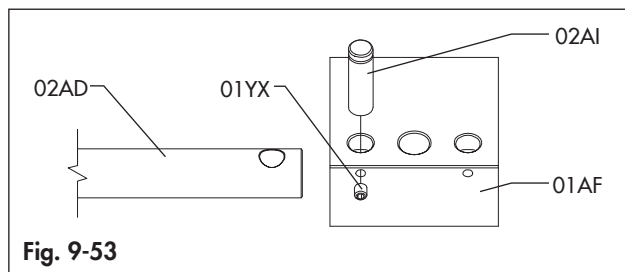
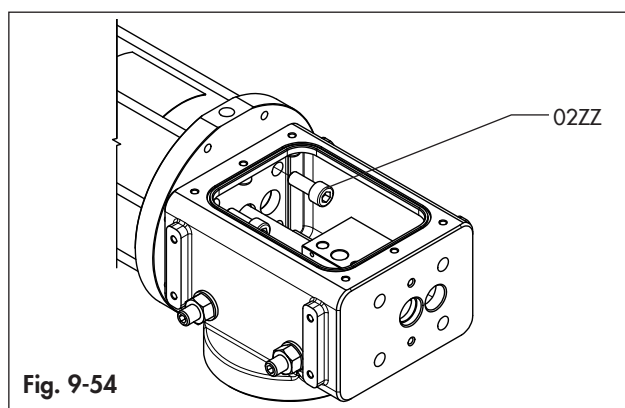

Fig. 9-53
Fig. 9-54
- Insert the shaft (02AD) into the Central module and into the sliding block (01AF). (Fig. 9-53) (Fig. 9-54).
- Add the pin (02AI) keeping the small machining on the upper side. When assembled in the correct position, the pin surface is aligned with the surface of the sliding block. (Fig. 9-53).
- Apply the threadlocker Loxeal 83•21 or equivalent and tighten the screw (01YX). (Fig. 9-53).
- Apply the threadlocker Loxeal 83•21 or equivalent and tighten the bolts (02ZZ) following a cross-bolt tightening sequence at the recommended torque. (Fig. 9-54).